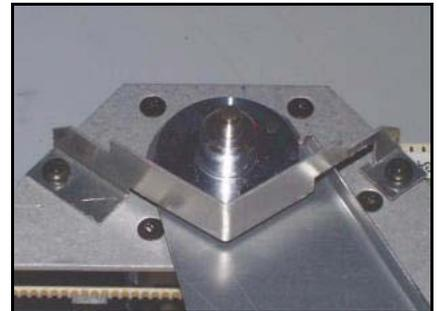

Fig. 54 V-plate over top dimmer
- 2 Remove the heat shield (Fig. 53) and the V-plate over the top dimmer blade (Fig. 54).